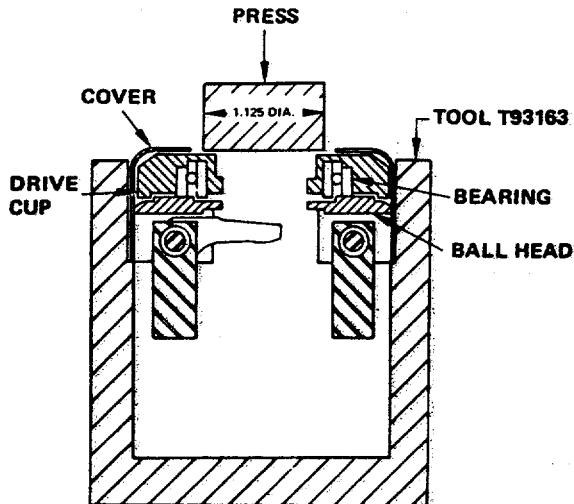

Figure 12-6. Ball Head Disassembly
- (34) Remove bushing (126, pilot valve plunger (127) and retaining ring (128).
- (35) Disengage magnet spring (129) from pilot valve plunger (127) and remove compensating bushing (130).
- (36) Remove cotter pin (27), pin (131) and push power piston (133) out of case from top.
- (37) Remove pushrod pin (134).
- (38) Remove nut (135) and pivot washer (136), and push linkage return piston (137) out of case from top. Count number of turns when removing the nut for reassembly.
- (39) Lift free end of floating lever (142) and turn it to a position where pin (138) can be driven out.
- (40) Remove floating lever (142), terminal lever (146), terminal lever link (147) and pivot link (148).
- (41) Remove snap ring (149).
- (42) Remove power piston (152) through top of case.
- (43) Pull sleeve (153) out of case using a hook-shaped tool.
- b. Ball Head Repair. Use an arbor press and tool T93163 to disassemble the ball head. See figure 12-6. Press the drive cup and ball head out of the cover. Disassemble the drive cup, ball head, bearing and flyweights. Note which side of the bearing is "up" in the drive cup and reassemble it with the same side up.